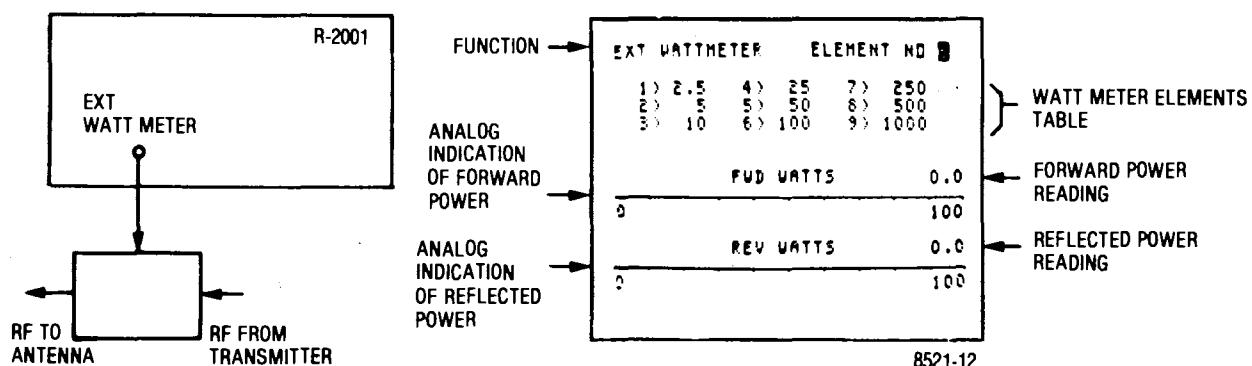

Figure 4-7. Wattmeter Test Setup and CRT Display
**4-13. EXT WATTMETER.** When the analyzer DISPLAY is set to the Ext Wattmeter mode and the Motorola RTL-4055B in-line wattmeter adapter (supplied) is connected to the Ext Wattmeter jack the analyzer measures both forward and reflected power. The power rating of the wattmeter elements (Motorola ST-1200 series\*), to be used, are displayed on the CRT. The following is an example of a test setup for external wattmeter operation. Figure 4-7 shows the test set connections and CRT display.